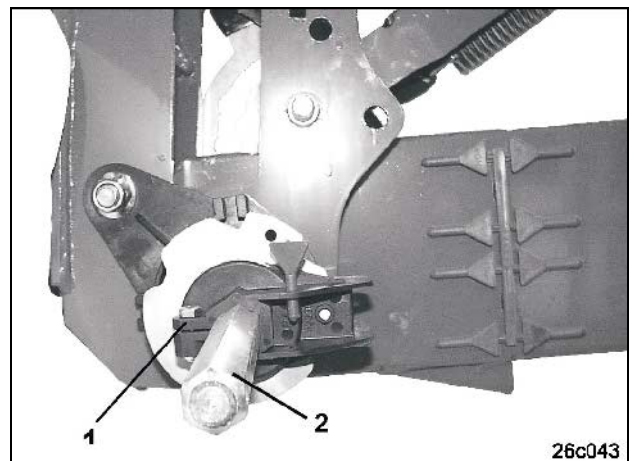

Fig. 62
- Slacken the hex. bolt on the coupling flange (Fig. 62/1) of the relevant sowing unit.
- If necessary, pull out the hexagon shaft (Fig. 62/2).
- Fit hexagon shaft (Fig. 62/2), if it had been pulled out.
- Secure hex. bolts on the coupling flange (Fig. 62/1) of the relevant sowing unit.